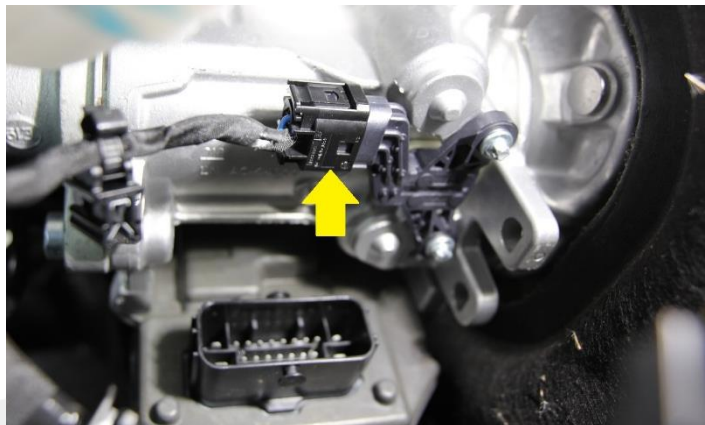

Figure 11
10. Disconnect the brake pedal sensor electrical connector from the electromechanical brake booster assembly (Figure 11).
- a. Connect the brake pedal sensor electrical connector (Figure 11).